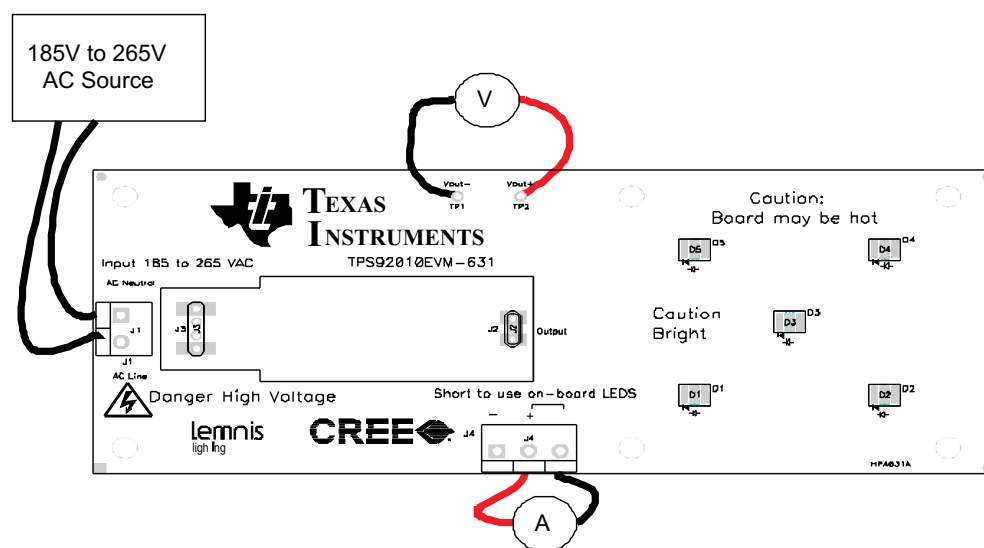
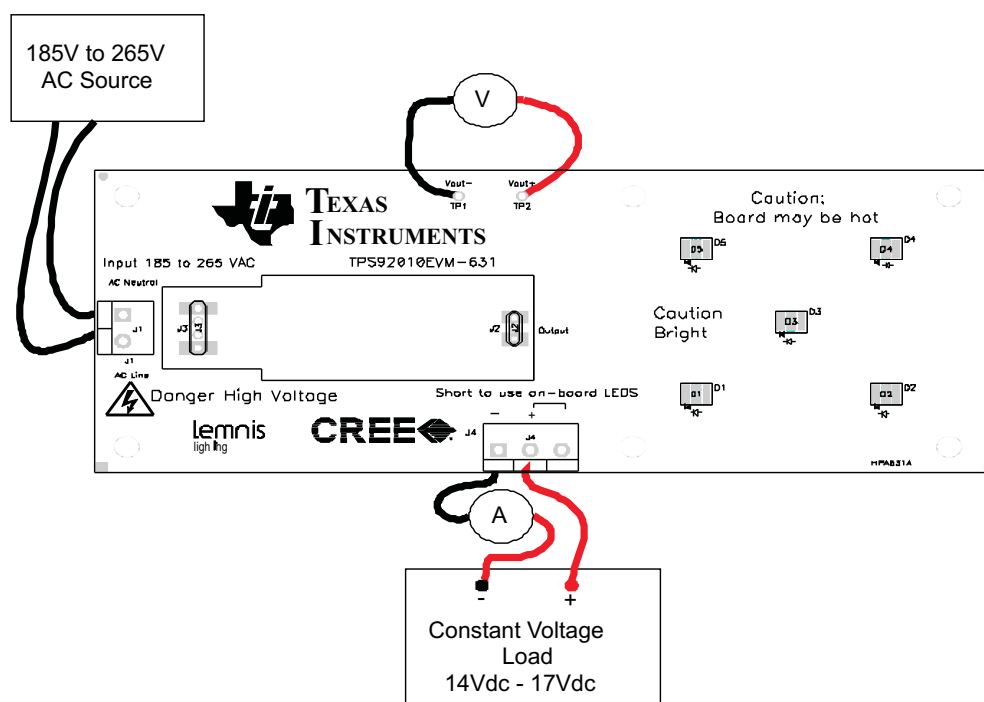

Figure 4. Recommended Test Set Up Using Internal Load
Figure 5. Recommended Test Set Up Using External Load
1. **Internal Load:** The EVM provides five on-board LED's. To use these a short or ammeter must be connected between pins 2 and 3 of J4, see Figure 4 above
2. **External Load:** If the user wants to validate the EVM with their own load pins 1 and 2 of J4 should be used. Any short between pins 2 and 3 should be removed to avoid damaging the EVM. See Figure 5 above.
1. Connect EVM per Figure 4 or Figure 5 above.
1. Set up the EVM per Figure 4 or Figure 5.